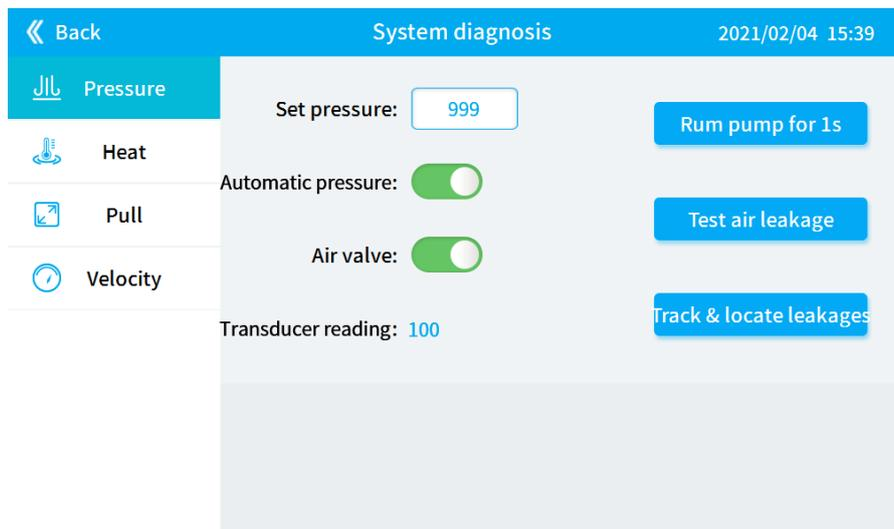

Figure 6-19
- 3) Remove the fixing screws ①, ②, ③, ④.
- 5) Tighten the fixing screws ①, ②, ③, ④.
- 6) Connect the left hose, enter the [Pressure diagnosis] interface as shown in Figure 6-19, set [Set pressure] to 999, turn on [Automatic pressure] and [Air valve], turn on the air pump and spray for a few minutes to remove the dust in the canister.